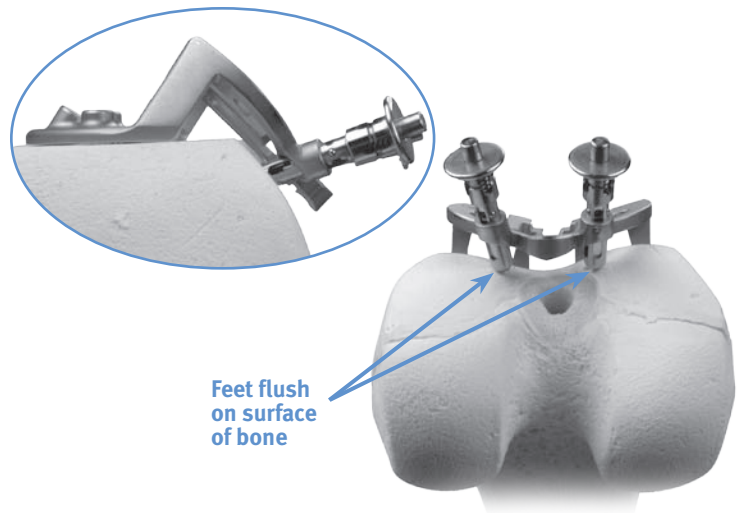

Fig. 20
- Ensure the anterior flange and two feet of the guide are simultaneously in contact with femur during this step (Fig. 20).